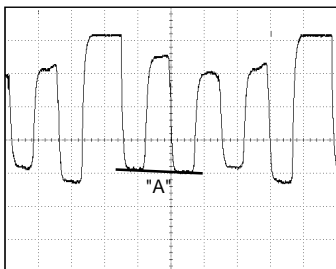

Fig. 2-3
5. Press the VOL. UP/DOWN button on the remote control until the section "A" becomes a straight line (**Refer to Fig. 2-3**).